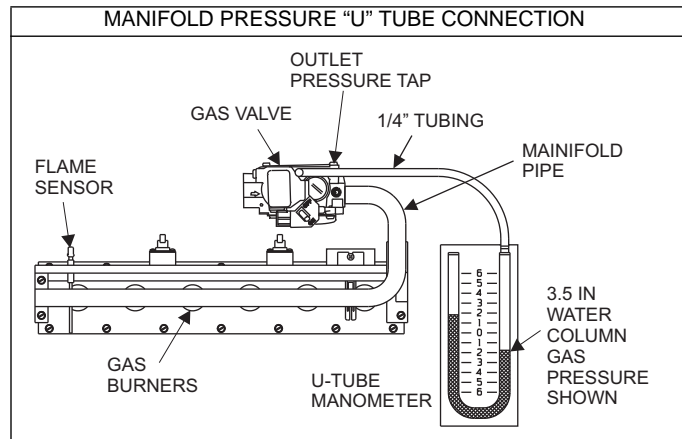

FIGURE 27: Reading Gas Pressure
Inlet and manifold gas pressure may be measured by connecting the "U" tube manometer to the gas valve with a piece of tubing. Follow the appropriate section in the instructions below. Refer to Figure 27 for a drawing of the locations of the pressure ports on the gas valve.
Connect the positive side of the manometer to the IN P Tap on the gas valve. Do not connect any tubing to the negative side of the manometer, as it will reference atmospheric pressure. Refer to Figure 27 for connection details.
1. Refer to Figure 27 for location of pressure regulator adjustment cap and adjustment screws on main gas valve.